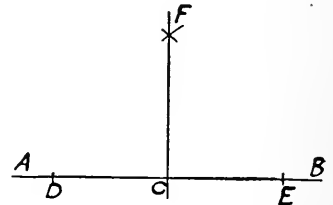

Fig. 575
2. *From a given point in a given straight line to erect a perpendicular* (Fig. 575).—Let AB be the given straight line, and C the given point.